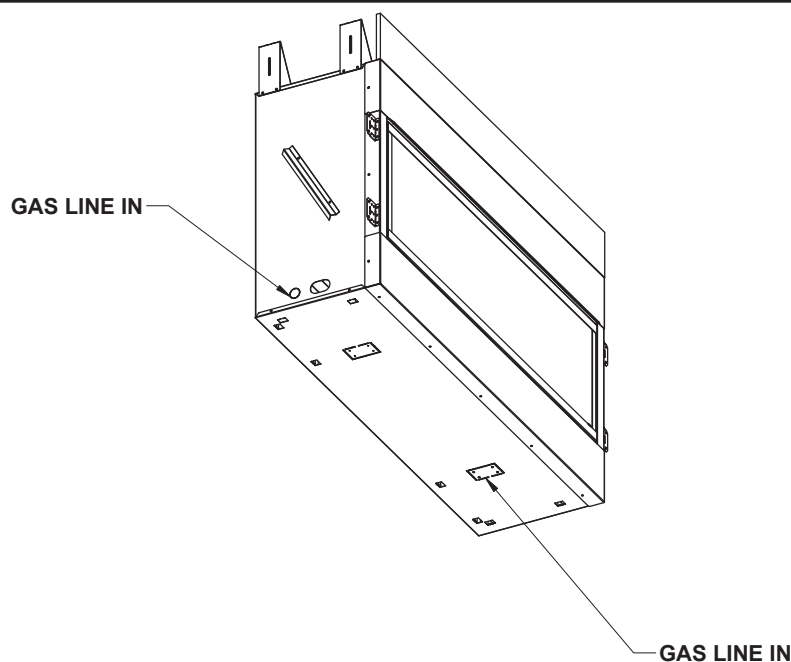

Figure 5.3 Gas Line In
A manual shutoff valve must be installed upstream of the appliance. Union tee and plugged  $\frac{1}{8}$ " NPT pressure tapping point should be installed upstream of the appliance. Figure 5.3
A sediment trap should be installed upstream to prevent moisture and contaminants from passing through the pipe to appliance controls and burners. Failure to do so could prevent the appliance from operating reliably. Figure 5.3
- Gas line may be run through the left side or right bottom of the appliance. See Figure 5.3.